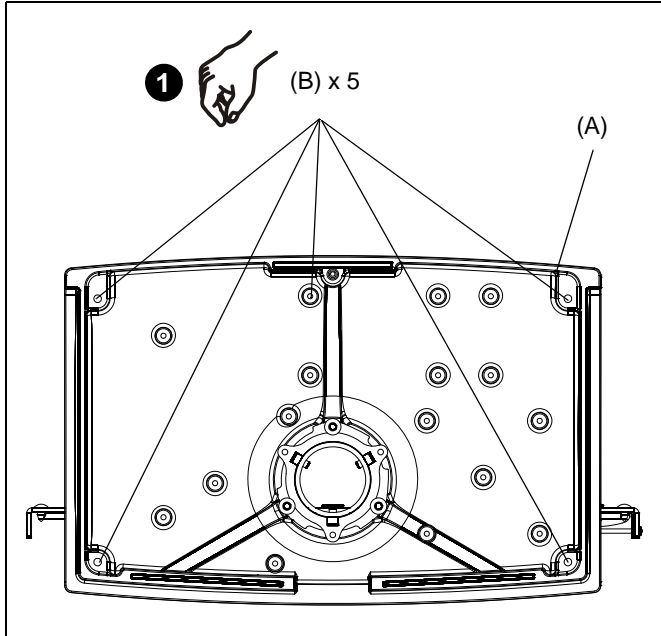

Figure 1
NOTE: For free-standing applications only, install five rubber bumpers (B) onto bottom of stand (A). (See Figure 1)
2. Lower display into place listening for audible "click" to ensure recessed area of mounting buttons are properly seated in lower area of mounting holes and ClickConnect mechanism has engaged. (See Figure 1)